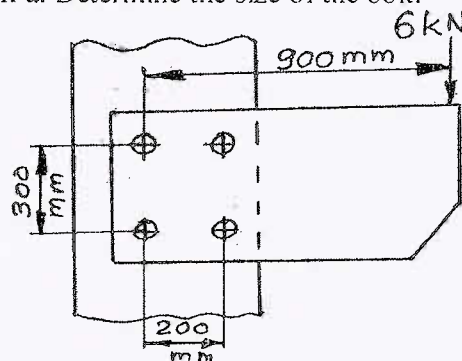

Fig.Q4(b)
- b. A bracket is bolted as shown in Fig.Q4(b). All the bolts are identical and have allowable stress of 60 MPa. Determine the size of the bolt.